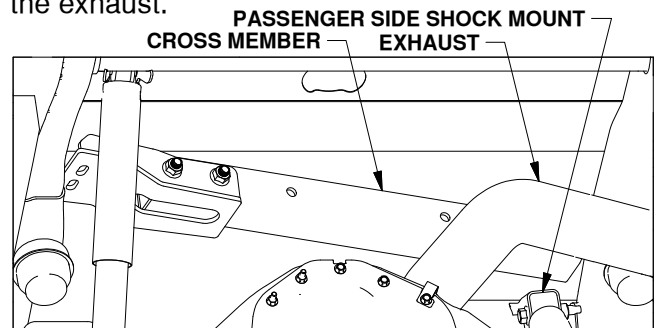

Figure B3: View looking up at bottom of bed over axle.
- 4. Place the forward cross member.** Under the truck, lift the end of the cross member assembly without the cross member bracket over the exhaust towards the passenger side shock mount, as shown in Figure B3. Bring the cross member bracket over the brake line bracket on the driver side of the truck and rest the flat end of the cross member bracket on the frame. Move the cross member so the end of the cross member assembly with no cross member bracket is resting on the exhaust.